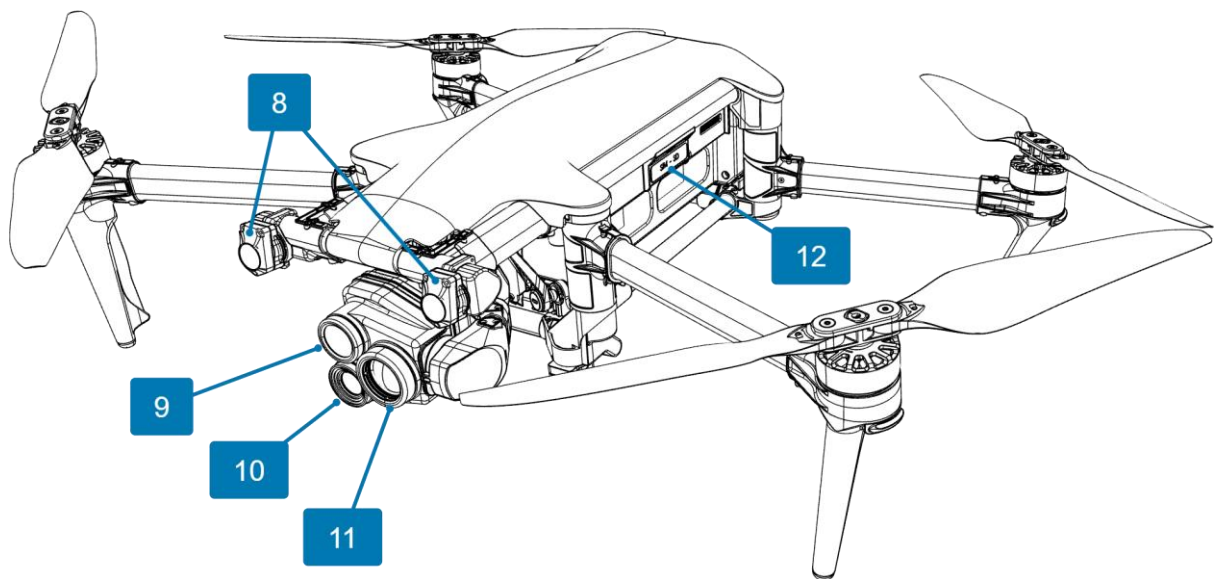

Figure 10: ANAFI UKR front view unfolded
- Nano SIM card port (*No. 12 in Figure 10*) - Used for 5G connectivity (ANAFI UKR GOV, and ANAFI UKR XLR only)
- MicroSD card port (*No. 12 in Figure 10*) - Used for external media storage.